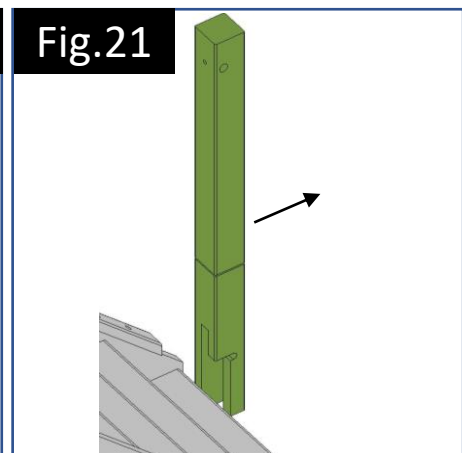

Fig.21
**Bottom newel** post which was temporary fixed now needs to be loosened off and pulled out of the way approx. 40mm in order for the rail fixing bolts to be inserted (**Fig.21**).